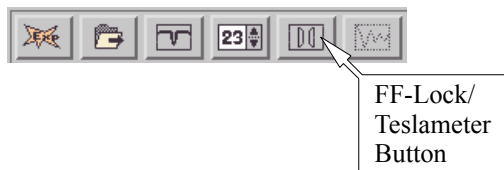

Figure 12-25 The FF-Lock/Teslameter button.
2. **Open the FF-Lock/Teslameter dialog box.** Click the FF-Lock/Teslameter button in the experiment tool bar to open the dialog box. (See Figure 12-25.)